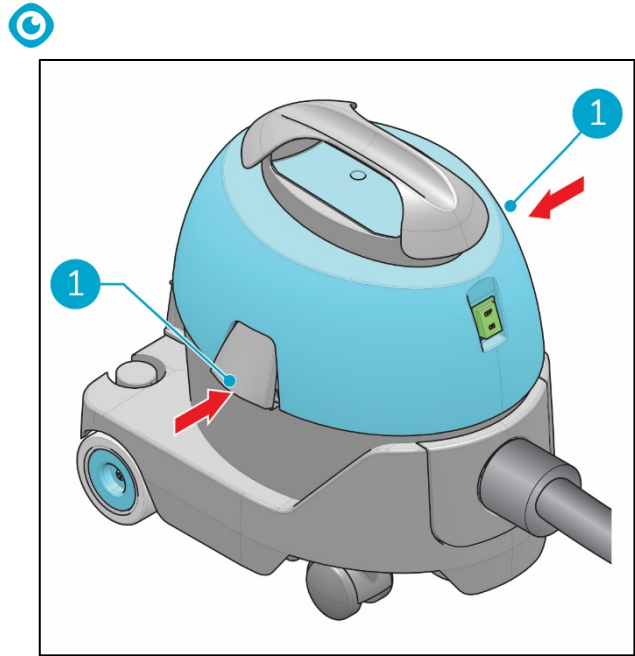

Figure 14
16. Fasten the latches (Figure 14, pos 1).